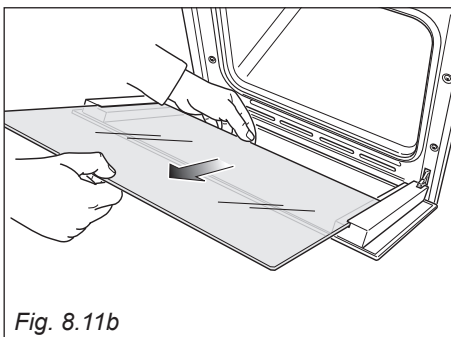

Fig. 8.11b
- Gently pull out the inner pane of glass (fig. 8.11b).